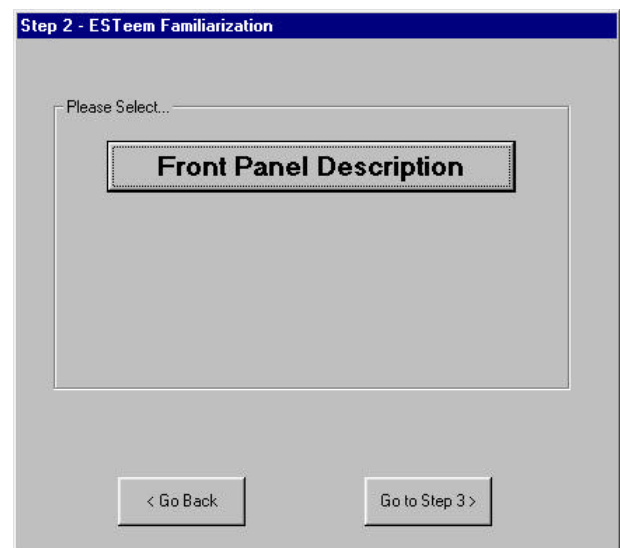

Figure 6: Step 2 – ESTeem Familiarization
- Step 2 – ESTeem Familiarization window will be displayed (Figure 6). This step will explain the connections to ESTeem Model 192 front panel. See Figure 1 for a setup diagram.